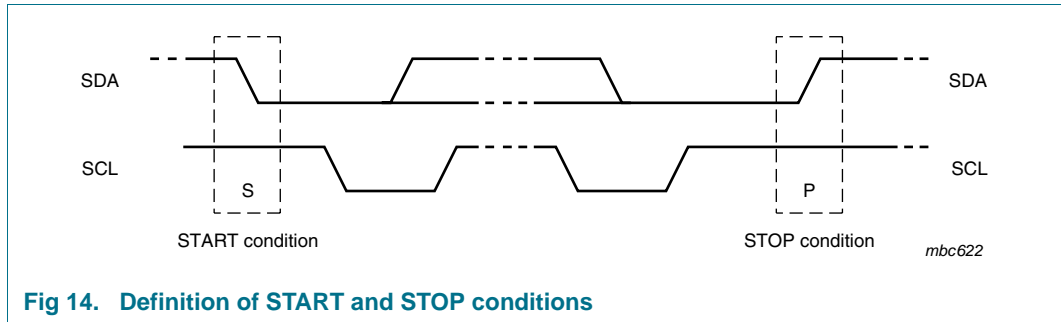

Fig 14. Definition of START and STOP conditions
Both data and clock lines remain HIGH when the bus is not busy. A HIGH-to-LOW transition of the data line while the clock is HIGH is defined as the START condition (S); see Figure 14. A LOW-to-HIGH transition of the data line while the clock is HIGH is defined as the STOP condition (P).